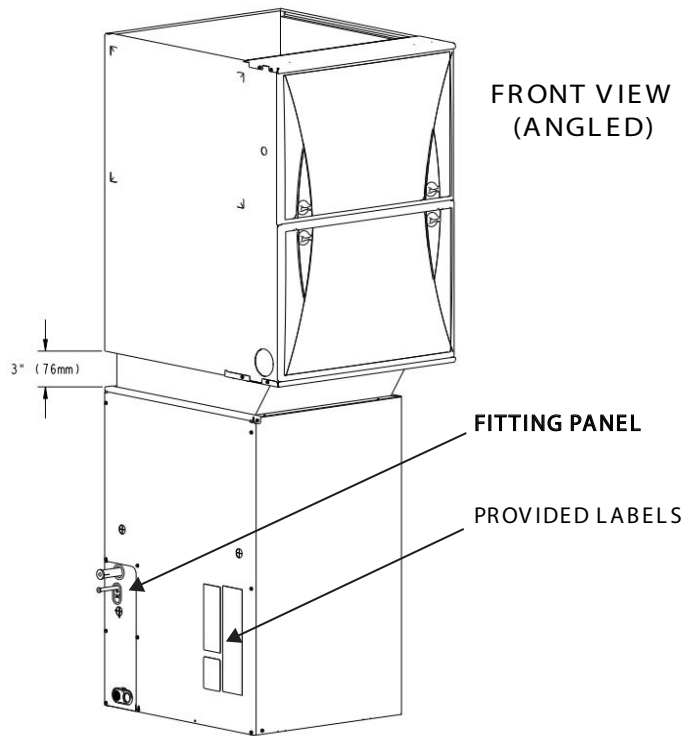

Fig. 2 – Downflow Installation with Coil Rotated 90°
6. Adhere the provided labels to the outside of the plenum or casing on a clean, dry and firm surface (Fig. 2).
5. Adhere the provided labels to the outside of the plenum or casing on a clean, dry and firm surface (Fig. 2).
**IMPORTANT:** Installing "A" coils rotated 90° from the front of the furnace in downflow applications can cause water blow off or coil freeze up. This is due to the concentration of air on one coil slab or lack of air on the opposite coil slab. If the airflow is high due to ductwork or other causes, and there is a chance for water blow off, it is recommended that a 3" field-supplied adapter be placed between the coil and the furnace to allow the air to distribute evenly to both coil slabs (Fig. 2).